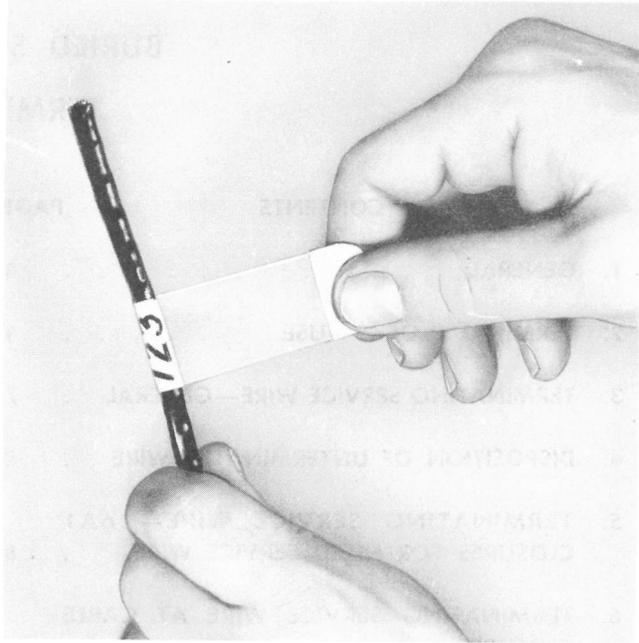

Fig. 1—Placing Self-Laminating Label
- Self-laminating label (obtain from T&B Co., W.H. Brady Co., or other companies with equivalent labels) (Fig. 1)—Mark the label with a pen or felt marker. Remove label from the pad and place on service wire by wrapping it on itself so that the transparent adhesive covers the written identity.